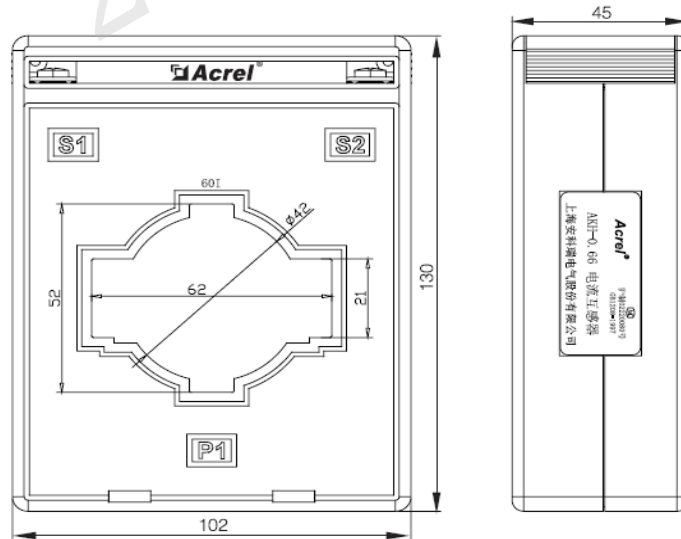

FIG. 11 External dimensions of current transformer 800A
5.3.3 The external dimensions of the current transformer (800A) are shown in FIG. 11 (unit: mm) : The current specification of the protector is 800A and the current transformer is not equipped with secondary connection. One protector is equipped with three transformers.